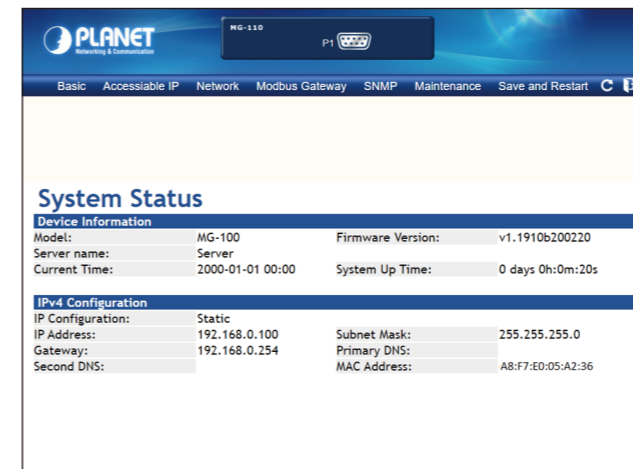

Figure 4-3: Web Main Screen of Modbus Gateway
3. After entering the password, the main screen appears as shown in Figure 4-3.